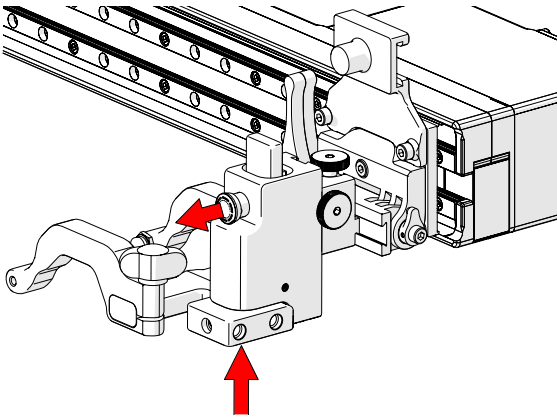
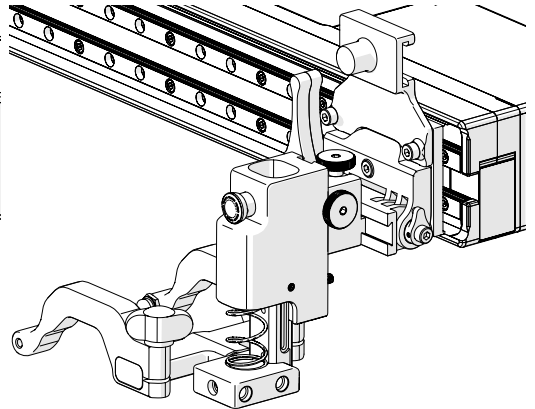

Fig. 160 - Press up and pull latch
Fig. 161 - Lowered toward scan surface
1. Gently lift the heavy duty vertical probe holder and simultaneously pull the latch (Fig. 160). This action will unlock the probe holder. Slowly lower the probe holder towards the scan surface (Fig. 161).